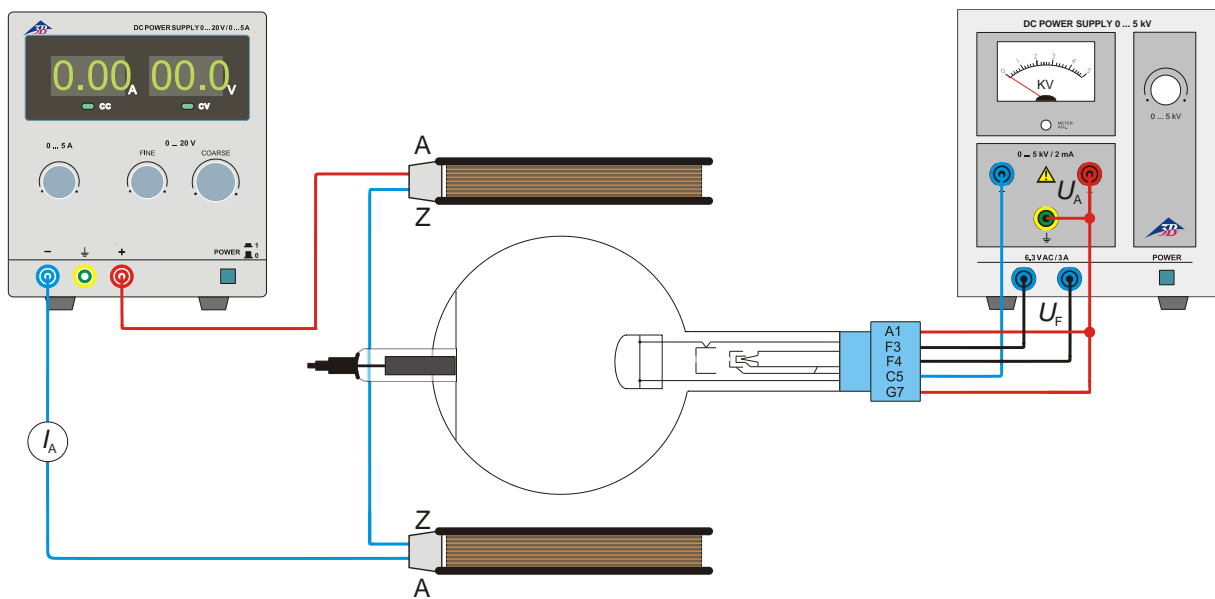

Fig. 3 Estimation of the specific electron charge e/m
- Set up the experiment as in fig. 3.